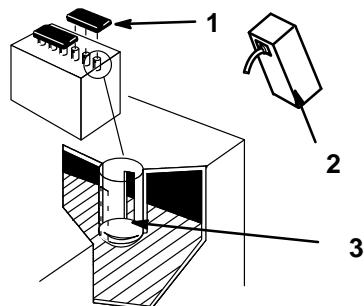

Figure 3
4. Remove filler caps from the battery. Slowly pour electrolyte into each cell until the electrolyte level is up to the lower part of the tube (Fig. 3).
- Slowly pour electrolyte into each cell until the level is once again up to the "UPPER" line on the battery case (Fig. 3) and install covers.